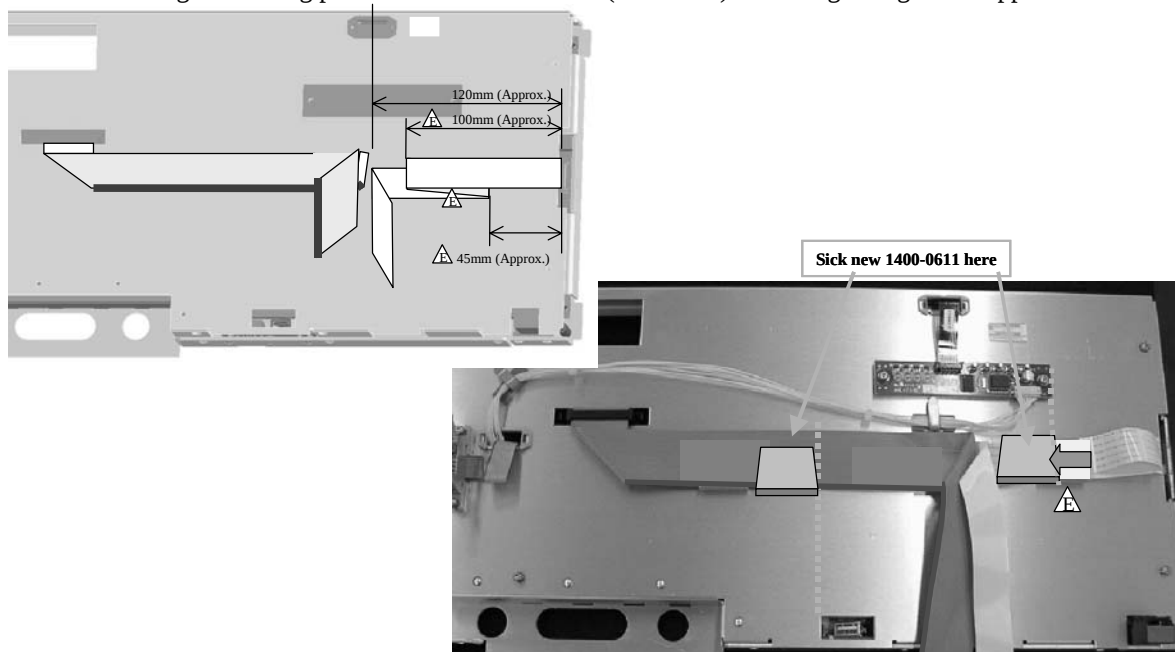

Figure 11 New cable clamp position and cable bending reference
17. To avoid the friction between new semi-rigid cables and front panel's cable clamp, remove two 1400-0611, cable clamp, from original place, then stick two new 1400-0611, cable clamp, as shown in Figure 11 lower. Then change a bending position of LCD flat cable (white one) according to Figure 11 upper.
23. To avoid the friction between new semi-rigid cables and front panel's cable clamp, remove two 1400-0611, cable clamp, from original place, then stick two new 1400-0611, cable clamp, as shown in Figure 11 lower. Then change a bending position of LCD flat cable (white one) according to Figure 11 upper
17. To avoid the friction between new semi-rigid cables and front panel's cable clamp, remove two 1400-0611, cable clamp, from original place, then stick two new 1400-0611, cable clamp, as shown in Figure 11 lower. Then change a bending position of LCD flat cable (white one) according to Figure 11 upper